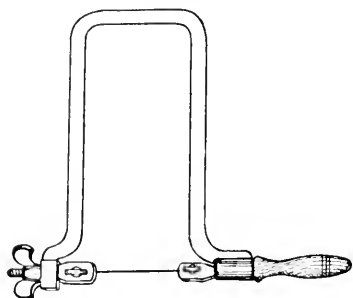

Fig. 16. FRET BOW SAW.
*Saws.* These are of various kinds; perhaps the most useful is the Fret Bow Saw, Fig. 16. This consists of a light thin steel frame with screw jaws, at the open end in which the thin saw-blades are clamped. The handle is also formed as a screw, by which its jaw can be advanced about an inch towards its fellow. To place the saw in position for work, the end of the handle is screwed round until its jaw has advanced about an inch, the
always cut out to the edges, a drill is required to pierce holes to thread the saw through the work before it is placed in the second jaw to strain it. Fig. 16